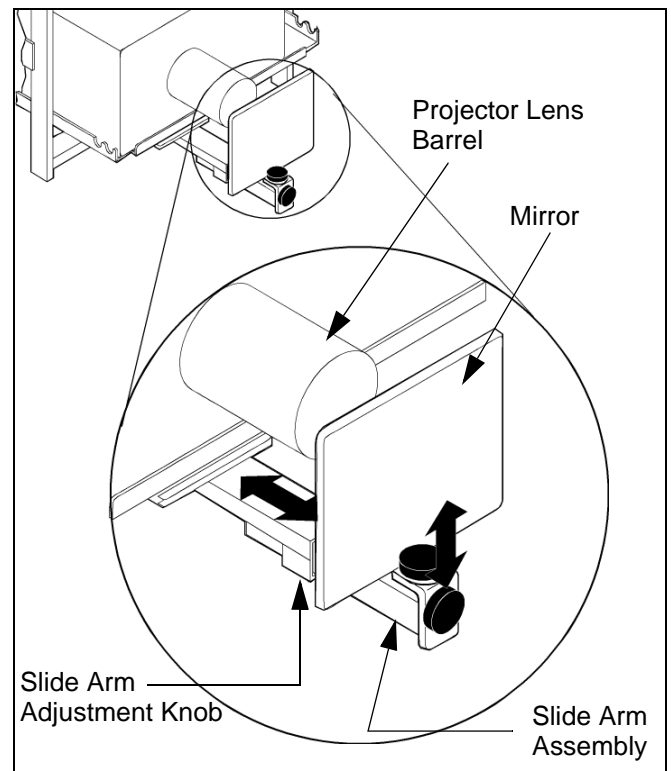

Figure 7: Mirror Adjustment
1. Loosen Slide Arm Adjustment Knob (located underneath Slide Arm Assembly) and sliding Slide Arm Assembly towards or away from projector until Mirror surface is close to, but not touching, Projector Lens Barrel. (see Figure 7:)